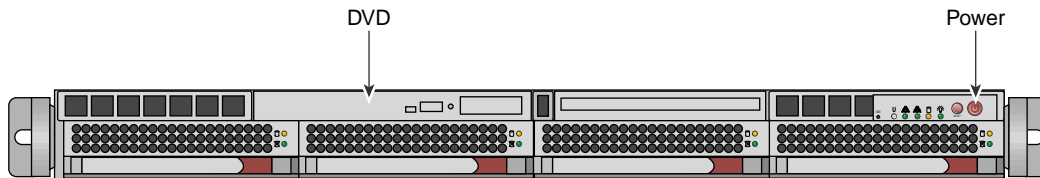

Figure 2-1 System Admin Controller Power On Button and DVD Drive
1. Turn on, reset, or reboot the system admin controller. The power on button is on the right of the system admin controller, as shown in Figure 2-1 on page 38.
2. Insert the SGI Admin Node Autoinstallation DVD in the DVD drive on the left of the system admin controller as shown in Figure 2-1 on page 38.